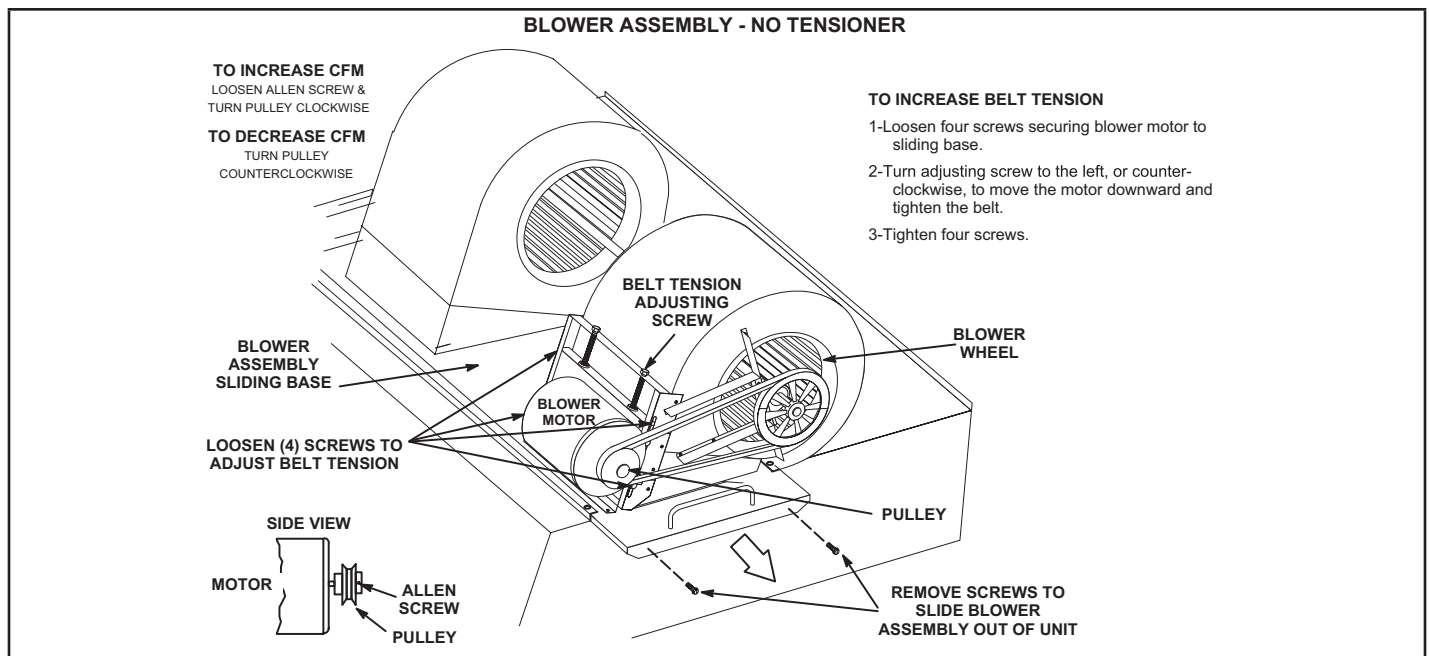

FIGURE 15
The blower compartment is located between the evaporator coil and the compressor / control section on the opposite side of the condenser coil. The blower assembly is accessed by disconnecting the blower motor wiring (and all other plugs) and removing the screws on either side of the sliding base. The base pulls out as shown in FIGURE 15.
- 2 - Remove screws on either side of blower assembly sliding base. See FIGURE 15.
- 4 - The blower RPM can be adjusted at the motor pulley. Loosen Allen screw and turn adjustable pulley clockwise to increase CFM. Turn counterclockwise to decrease CFM. See FIGURE 15. Do not exceed minimum and maximum number of pulley turns as shown in TABLE 5.
- 1 - Loosen four screws securing blower motor to sliding base. See FIGURE 15.